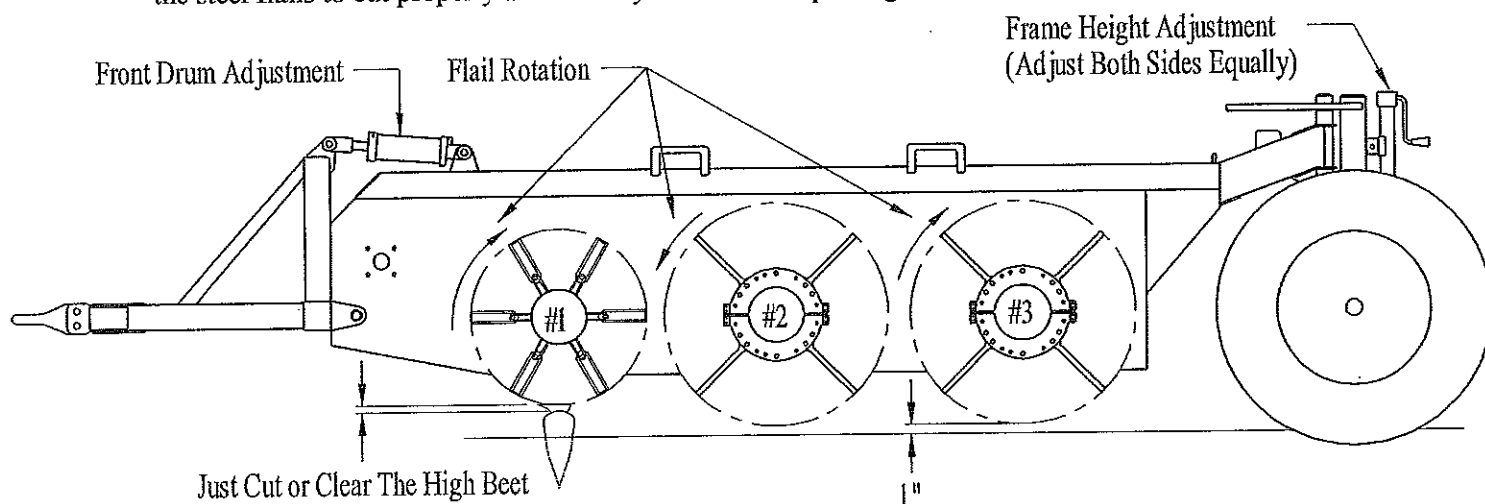

Figure 3.
5. Be sure all persons are clear of machine, and then slowly engage PTO. Check for proper rotation of flails. See Figure 3. Run defoliator for 15-20 minutes and then disengage PTO
NOTE: Height adjustments are approximate starting points. Final adjustments may differ from those listed below, depending upon field conditions. See Figure 3 for reference.